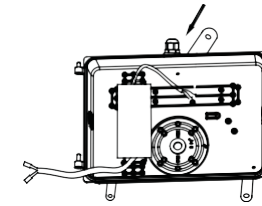

Figure 2
- Rotate the three mounting brackets to the desired angle for installation. (Figure 2)